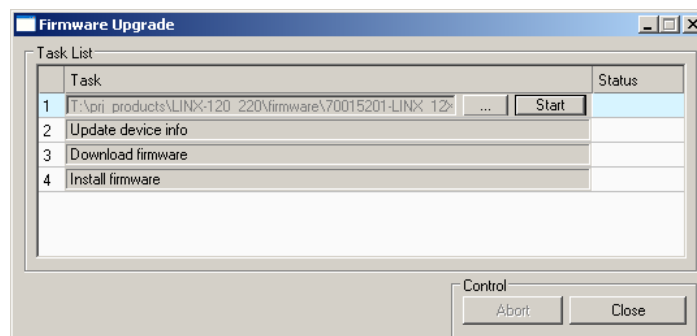

Figure 82: Firmware Update dialog of the Configurator.
8. This opens the **Firmware Update** dialog as shown in Figure 82. Click on the button  and select the firmware image.